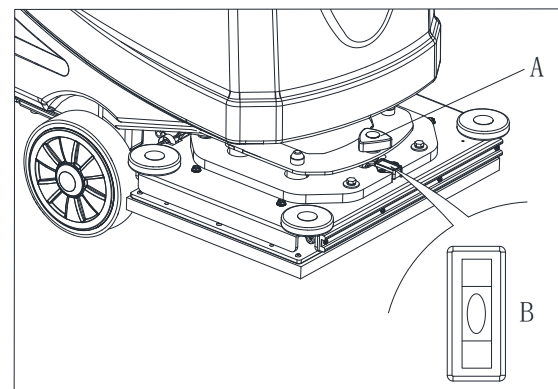

Figure 8.1
2. Adjust the level of orbital deck by adjusting handle (A, Figure 8.1).made the bubble in the middle (B Figure 8.1).